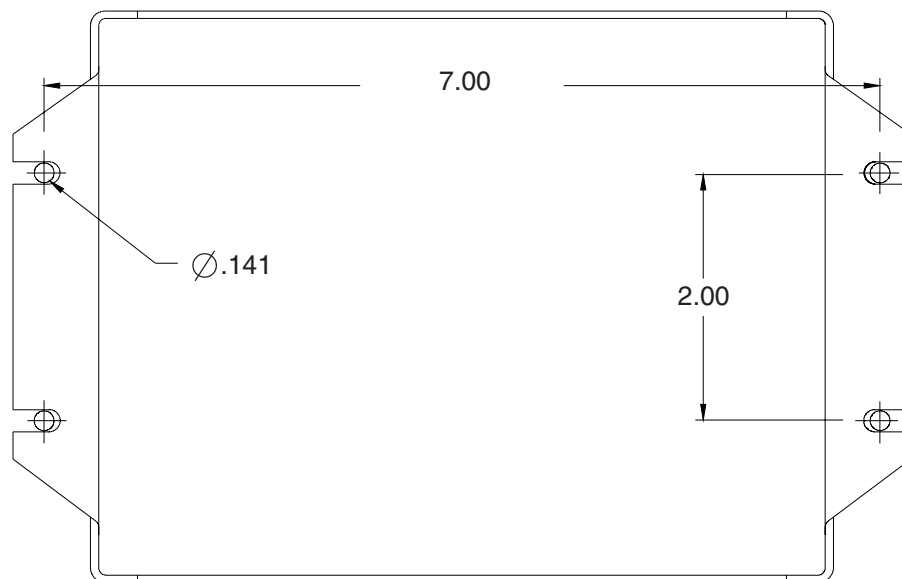

FIGURE 1
2. Mount the unit with the four supplied #8 sheet metal screws. If possible, a metal surface should be chosen for best heat dissipation. The mounting hole pattern dimensions are shown in Figure 1. The power supply can be used as a template, if desired, to mark the drill locations. Pre-drill this surface with a 9/64 drill and secure the unit.